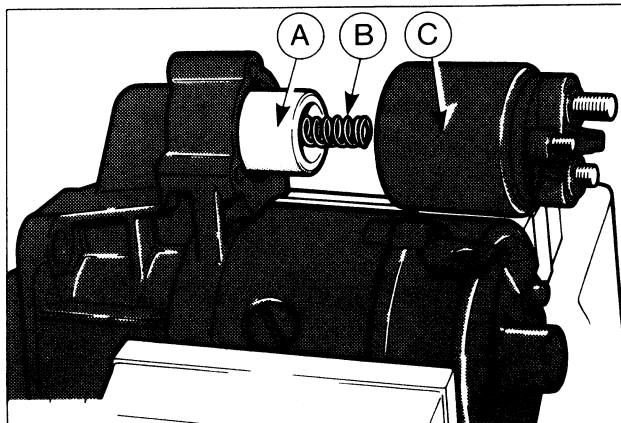

FIG. 12 Solenoid
10. Smear lithium based grease onto solenoid armature hook and then locate hook onto actuating arm in drive end housing. Ensure solenoid armature return spring is correctly positioned and then guide solenoid body over armature, Fig. 12. Align body with drive end housing and install retaining screws.